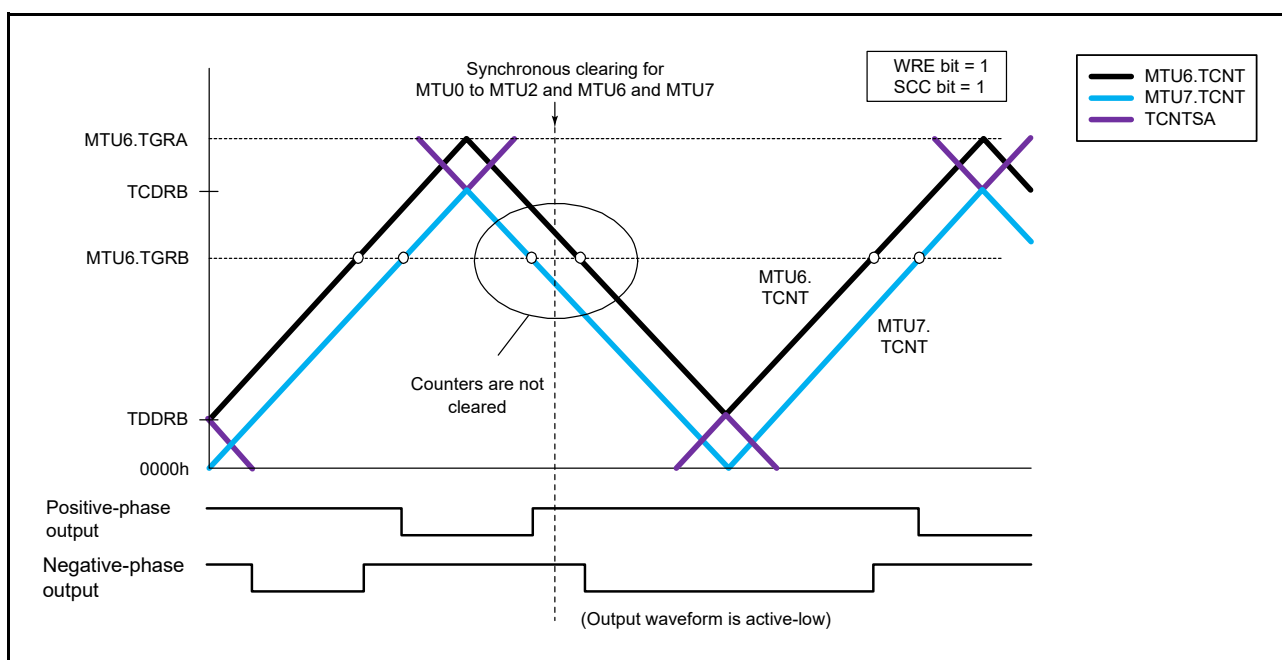

**Figure 24.74** Example of Synchronous Clearing in Dead Time during Up-Counting
Figure 24.74 to Figure 24.77 show examples of operation in which MTU6 and MTU7 operate in complementary PWM mode and synchronous counter clearing for MTU 0 to MTU2, and MTU6 and MTU7 is suppressed by setting the SCC bit in TWCRB in MTU6 and MTU7 to 1. In the examples shown in Figure 24.74 to Figure 24.77, synchronous counter clearing occurs at timing (3), (6), (8), and (11) shown in Figure 24.66, respectively. In these examples, the WRE bit in TWCRB in MTU6 and MTU7 is set to 1.